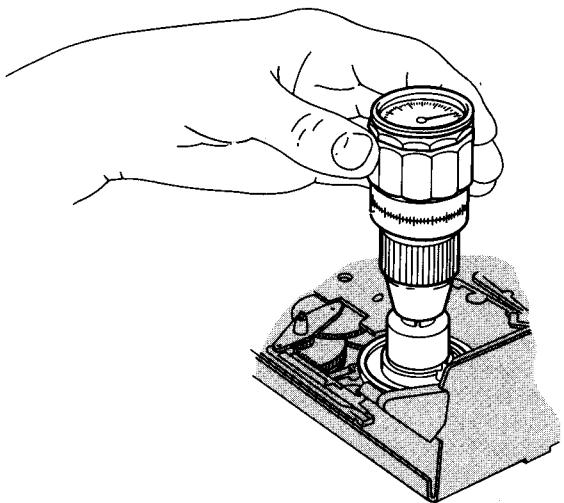

Fig. 2-4
- Carry out preparation items 1, 2 and 3
- To adjust this friction, place the machine in the threaded STOP position by pressing the PLAY button whilst obscuring the light guide pos. 243 with the finger tips until the machine has threaded, also depress switch COD3 and the STILL button. The machine will stay in this position for 6 to 8 minutes.
- The torque in a clockwise direction should be between 1.3 and 1.6 mNM (13.0 and 16.0 gFcm). Do not let the weight of the torque meter bear on the turntable (Fig. 2-4).
- Carry out preparation items 1 and 2.
- Place the machine in the STOP-threaded position by pressing the PLAY button whilst covering the light guide pos. 243 with the finger tips until threading is complete, and the STOP button, also depress switch COD3. The machine will stay in this position for 6 to 8 minutes.
- Using the torque meter on the left hand supply reel turntable Fig. 2-4 rotate the flywheel of the combi motor clockwise until the reading is stable, it should be between 2.8 and 3.8 Ncm (280 and 380 gFcm).